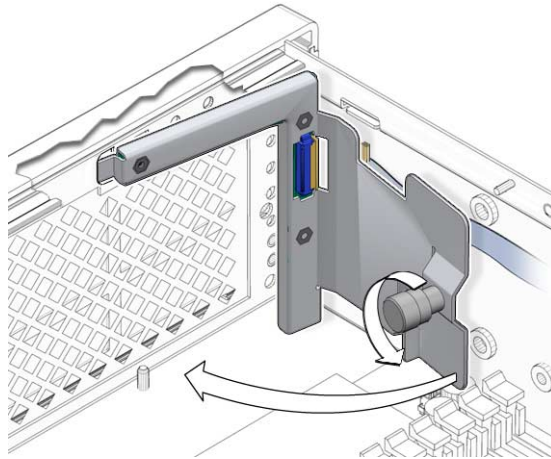

FIGURE 3-40 Removing the LED Board From the Chassis
4. **Loosen the thumbscrew of the LED board and swing the board out to the left (FIGURE 3-40).**